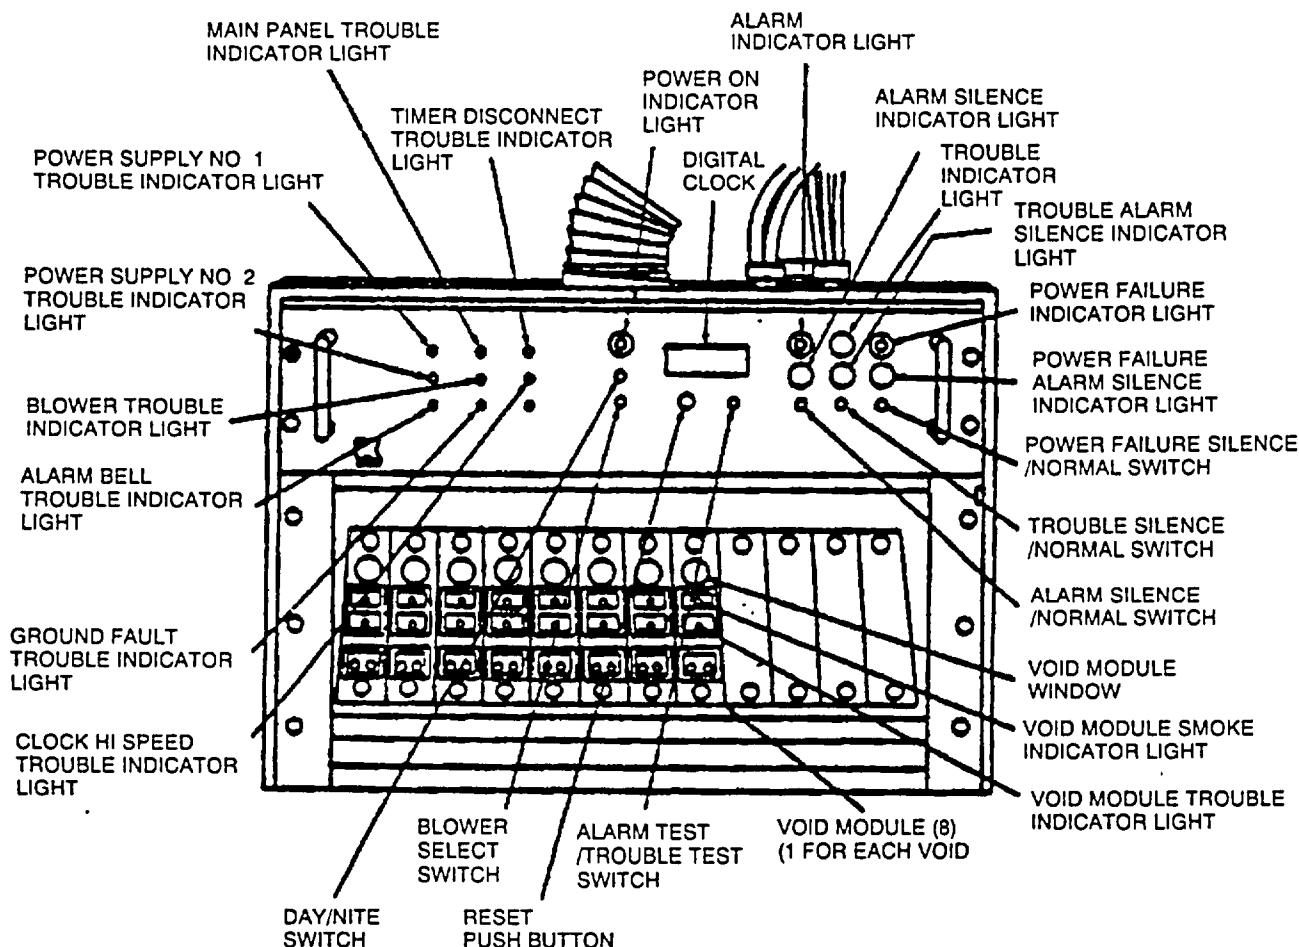

Figure 4-1. Front Panel of Marine Smoke Detector Cabinet
4-2 Description. The smoke detector system has a cabinet with display panel (Figure 4-1) on the ROWPU space forward bulkhead. A suction blower cabinet is located on the deckhouse top and alarm bells are mounted in the detector cabinet and in the dayroom. Air sampling accumulators are located in each void and are connected to the smoke detector cabinet by associated pipes and tubing.
4-6 Controls and Indicators. Operator controls and indicators are at the smoke detector cabinet in the ROWPU space (Figure 4-1). An olfactory (sniffer) valve is near the smoke detector cabinet. The sniffer valve allows a crewmember to determine the type of fire by smelling the smoke.
- d. Supply power to smoke detector system (Figure 4-1) by setting BLOWER SELECT toggle switch to M1 or M2. Make sure green POWER ON indicator light on cabinet panel comes on.